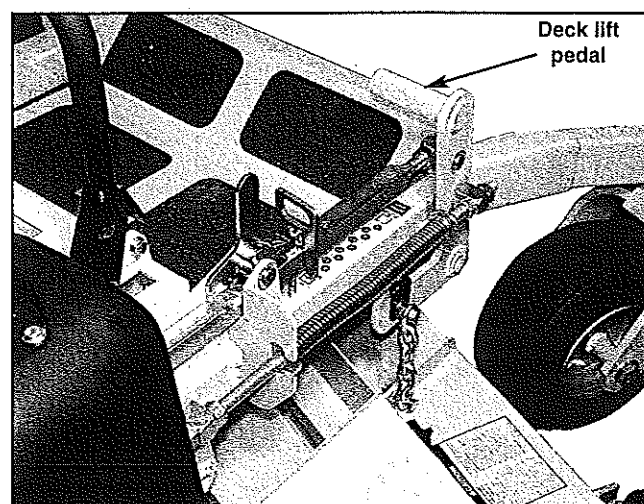

Figure 3-4
B. **Deck lift pedal (Fig. 3-4)** — the deck lift pedal is used to raise or lower the deck. Push on the pedal to raise the deck and then place the deck height locking pin into the desired cutting height hole. Push the deck lift pedal to raise the deck when going over obstructions.